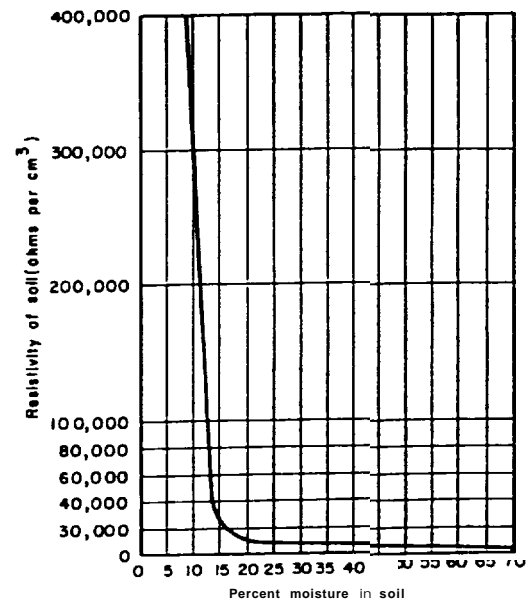

Figure 14-5. Soil resistivity vs. moisture content of red clay soil.
b. *Moisture and temperature of soil.* When a soil dries out, or its temperature is lowered, the soils resistance value increases (figs 14-5 and 14-6). Therefore, resistance values measured will vary